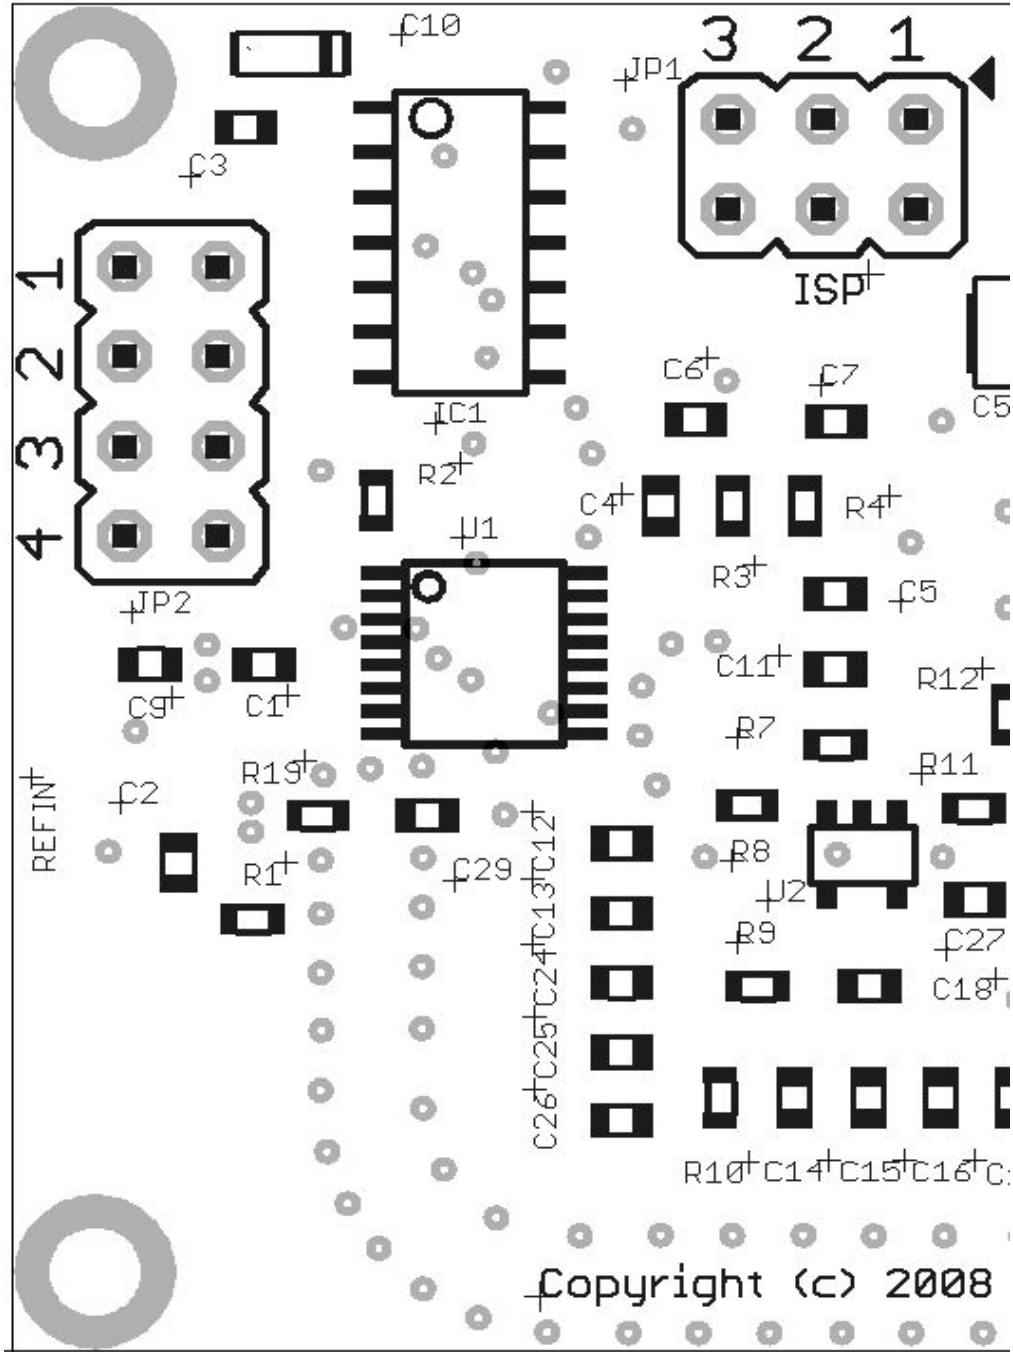

Figure 1
Opening the Model 2160-ALN to change Reference Frequency Options is accomplished by removing the six (6) 0-80 Phillips head screws from the top cover. These screws are very small, so put them in a safe place until time to put them back. After the cover is opened, you will notice there are (4) four jumper options (JP2) in the upper left corner next to the reference-input port. *See figure 1 below.* There is only one jumper shunt included with the unit as shipped, and jumper positions 1,2 and 3 are not used on the Model 2160-ALN.
Remember the “**O**” is for **OPEN** (no jumper installed), and “**S**” is for **SHORTED** (jumper installed). The jumper layout is shown in Figure 1. Changing a jumper will automatically select the new reference frequency option and will not require the unit to be power cycled.